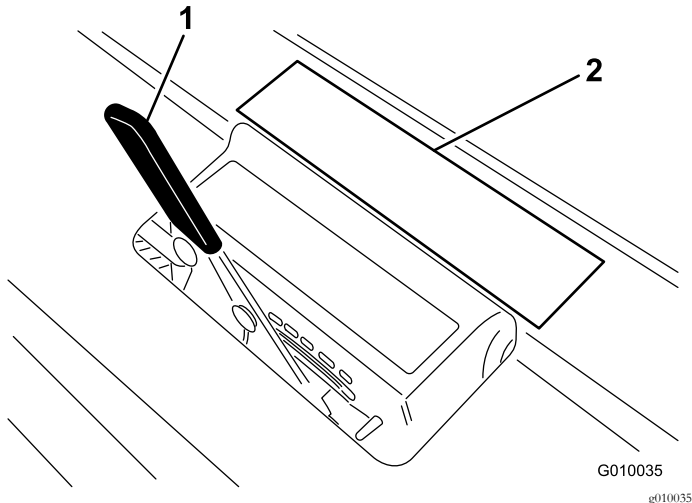

Figure 27
3. Lay the tine on the tine depth decal (Figure 27) with 1 end lined up with the desired depth of aeration (refer to the tine overlay on the decal).